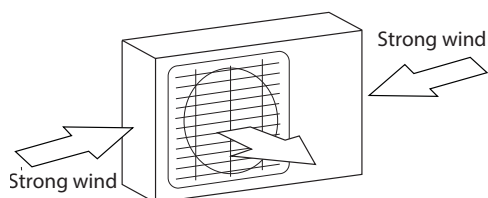

Fig. 5.1
- ☑ If the location is exposed to strong winds (for example: near a seaside), the unit must be placed against the wall to shelter it from the wind. If necessary, use windbreaks (or similar). (See Fig. 5.1 & 5.2)